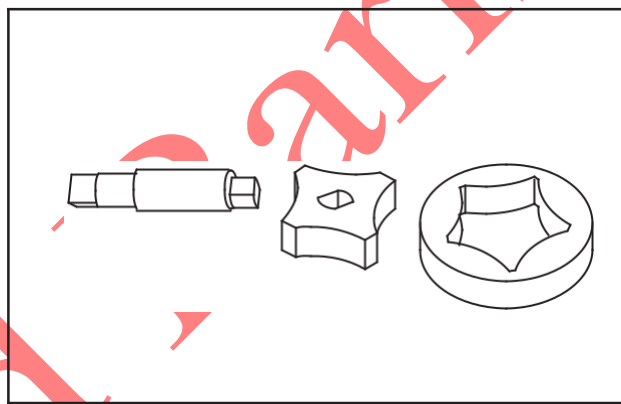

Fig. 11 – Checking Oil Pump
2. Check rotors and shaft for any obvious wear and/or damage, Fig. 11. Replace as necessary.